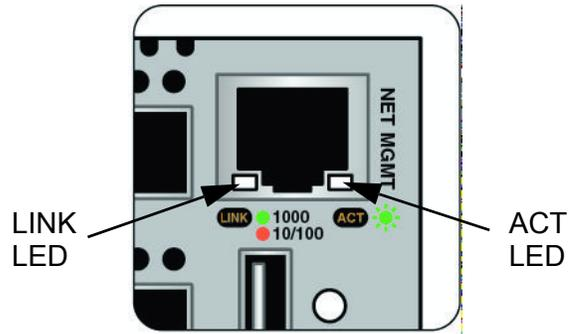

Figure 6. NET MGMT LEDs
- ❑ Fan LEDs - The fan LEDs FAN 1 (upper LED) / FAN 2 (lower LED) display the status of the fan modules. They are located in the center of the chassis between the fan module slots. See Figure 6 on page 27 for the functional description of these LEDs.
The NET MGMT LED are shown in Figure 6.